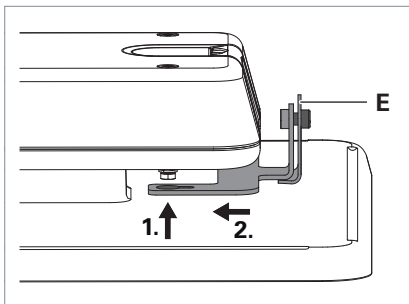

Fig. 10: Hang the retaining bracket into the luminaire.
- ▶ Hang the retaining bracket **E** into the luminaire, see Fig. 10.